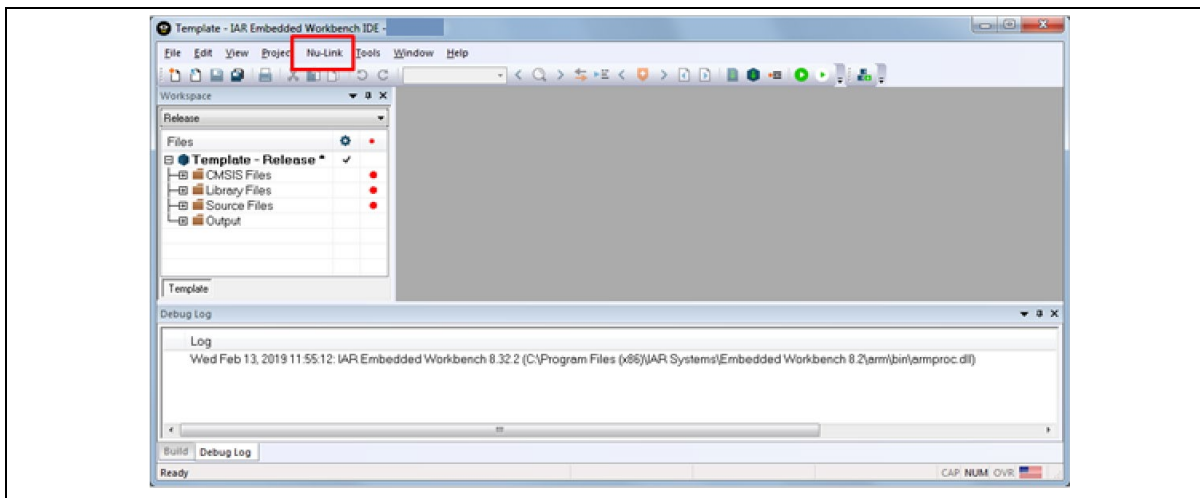

Figure 4-13 IAR EWARM Window
2. Make sure the toolbar contains “Nu-Link” item as shown in Figure 4-13.